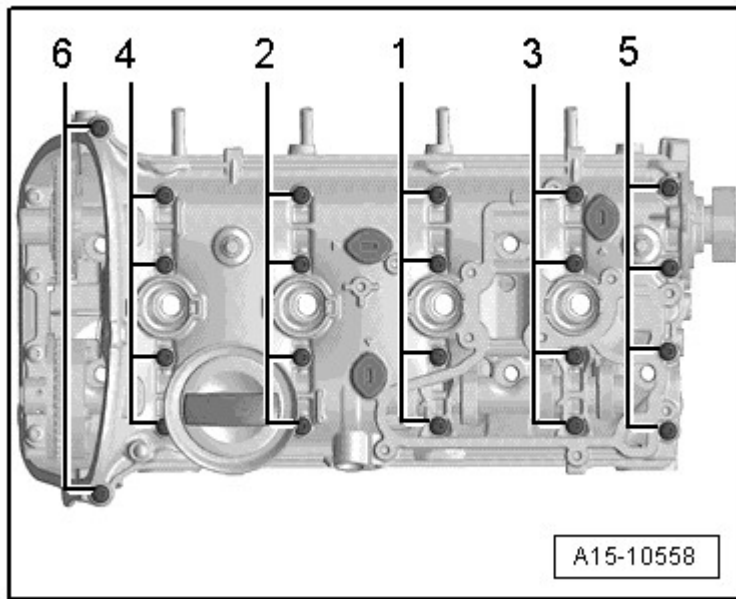

Fig. 23: Identifying Cylinder Head Cover Tightening Sequence
- Tightening sequence, refer to **Fig. 23**